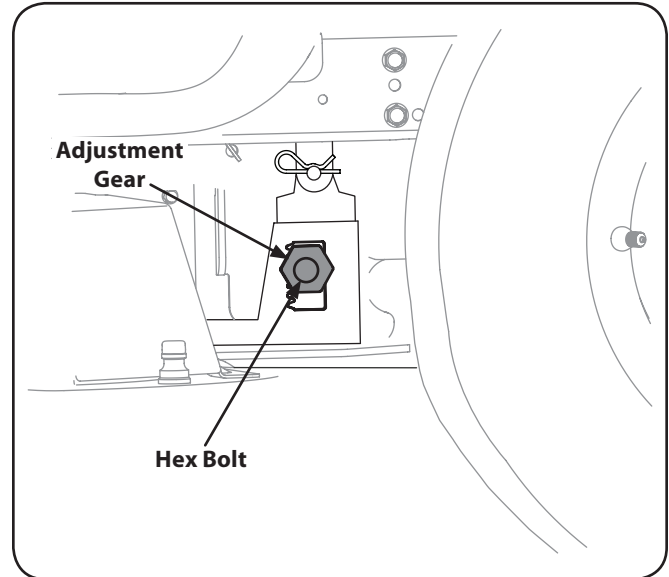

Figure 6-7
3. Loosen, but do NOT remove, the hex bolt on the front left deck hanger link. See Fig. 6-7.
4. Using a wrench, raise or lower the left side of the deck by turning the adjustment gears. See Fig. 6-7.
4. Loosen, but do NOT remove, the hex bolt on the left and right rear deck hanger brackets. See Fig. 6-7.
5. Using a wrench, raise or lower the left and right side of the deck by turning the adjustment gears. See Fig. 6-7.